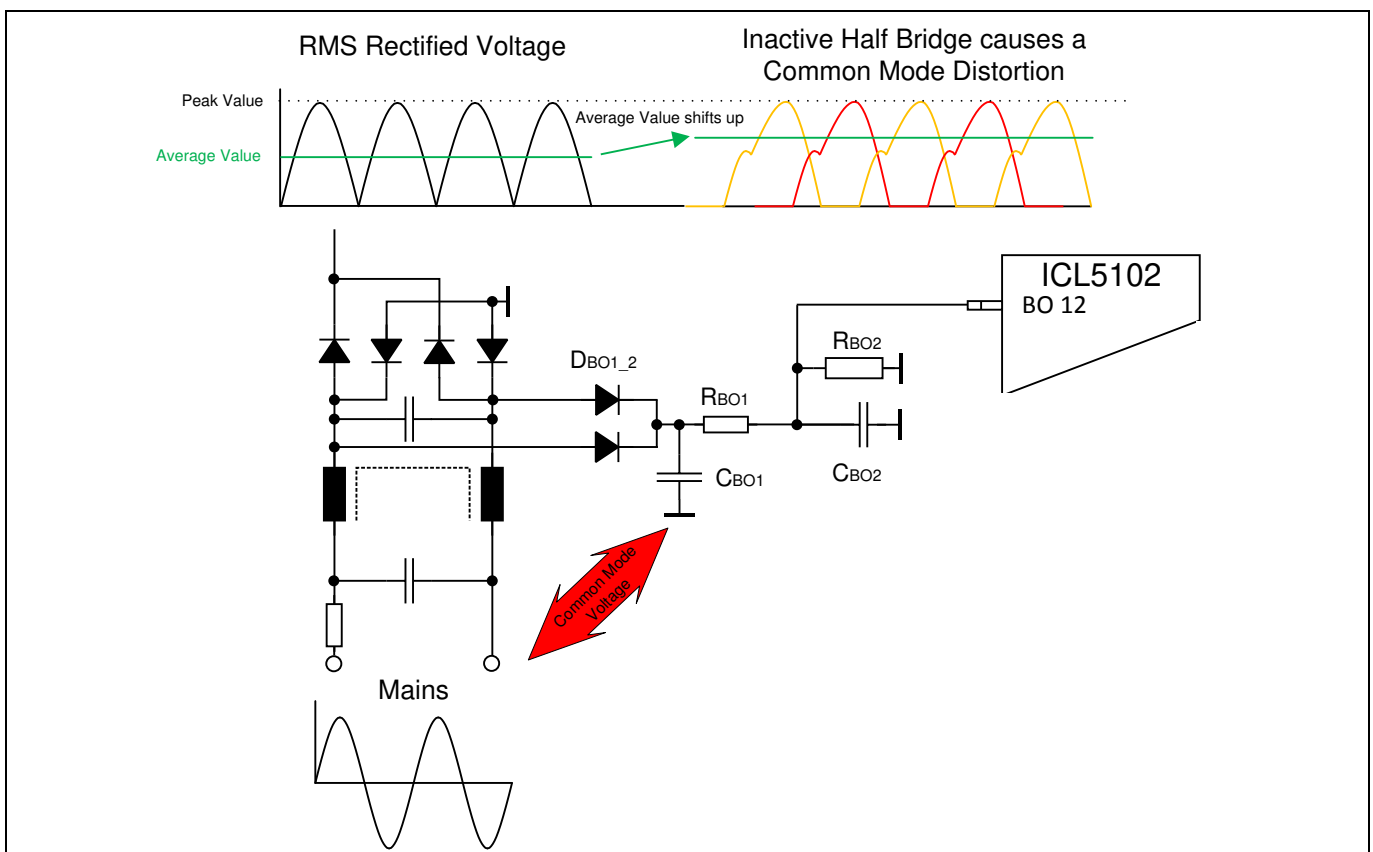

Figure 11 Impact of conducting vs non-conducting (distortion)
The BO detection function of the ICL5102 is based on a DC voltage on pin 12 (BO) that represents the average value of the rectified mains voltage, see Figure 11.
The level at the BO pin becomes incorrect when the half-bridge is not running, at start-up or in RUN mode when a protection shuts off e.g. BO. In both cases, the input diode bridge is not conducting. This causes a Common Mode (CM) voltage from mains to power GND, see the red arrow in Figure 11. It results in a shifting up of the average value of the RMS rectified voltage, see “Common mode distortion” in Figure 11. Note: The peak value stays the same. In order to compensate for this effect place a film capacitor  $C_{BO,1}$  from  $R_{BO,1}$  (as shown in Figure 11) to power GND.